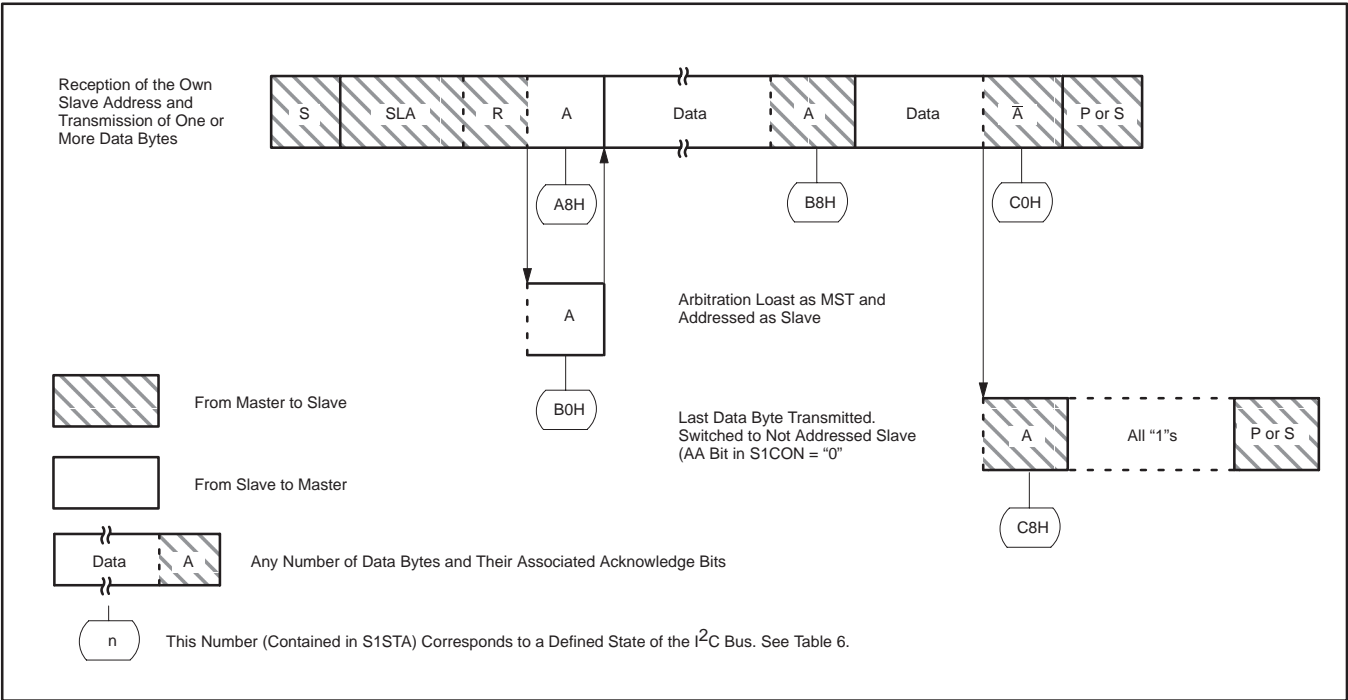

Figure 20. Format and States of the Slave Transmitter Mode
When SIO1 is in the addressed slave transmitter mode, state C8H will be entered after the last serial is transmitted (see Figure 20). When SI is cleared, SIO1 leaves state C8H, enters the not addressed slave receiver mode, and the SDA line remains at a high level. In state C8H, the AA flag can be set again for future address recognition.
Slave Transmitter Mode: In the slave transmitter mode, a number of data bytes are transmitted to a master receiver (see Figure 20). Data transfer is initialized as in the slave receiver mode. When S1ADR and S1CON have been initialized, SIO1 waits until it is addressed by its own slave address followed by the data direction bit which must be "1" (R) for SIO1 to operate in the slave transmitter mode. After its own slave address and the R bit have been received, the serial interrupt flag (SI) is set and a valid status code can be read from S1STA. This status code is used to vector to an interrupt service routine, and the appropriate action to be taken for each of these status codes is detailed in Table 6. The slave transmitter mode may also be entered if arbitration is lost while SIO1 is in the master mode (see state B0H).